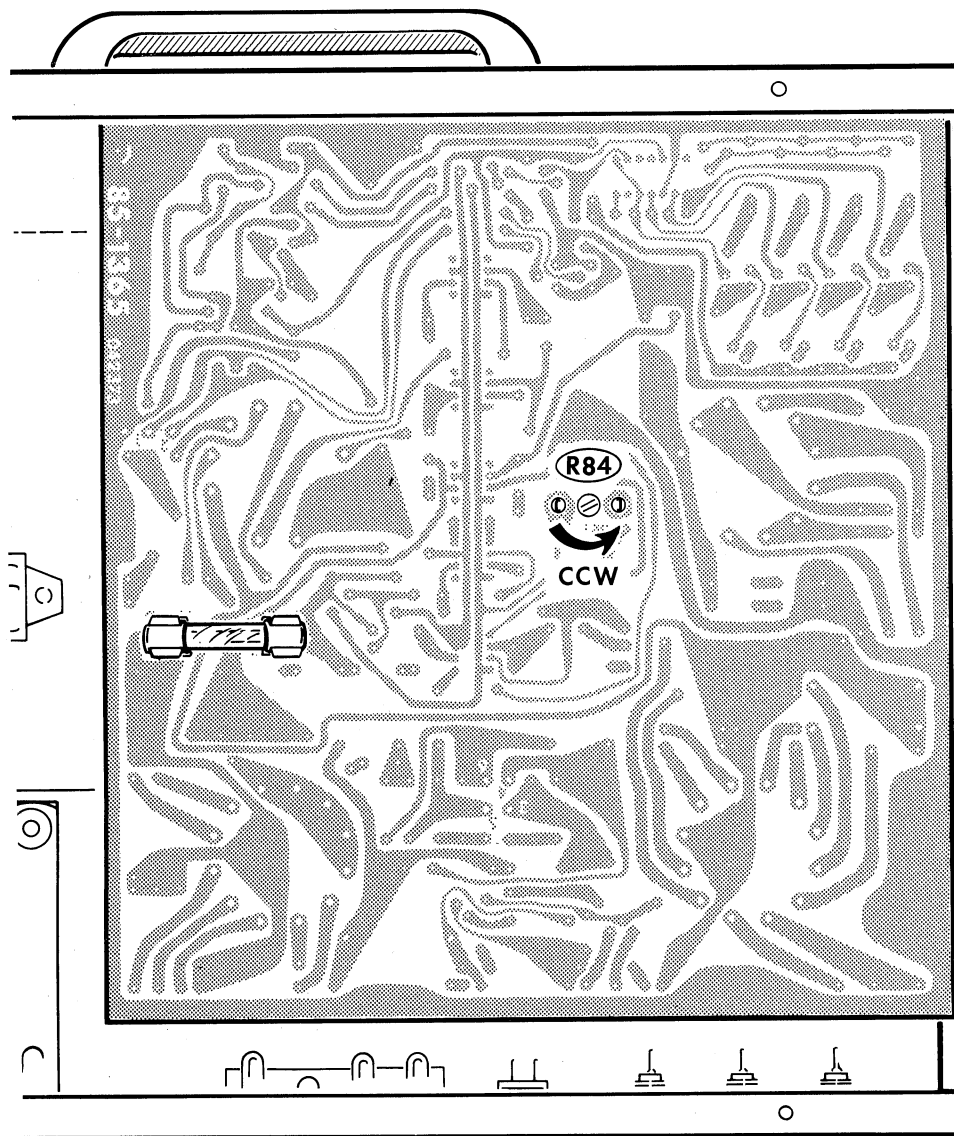

Figure 1-7
- () Refer to Figure 1-7 (fold-out from Page 52) and turn circuit board control R84 fully counterclockwise.